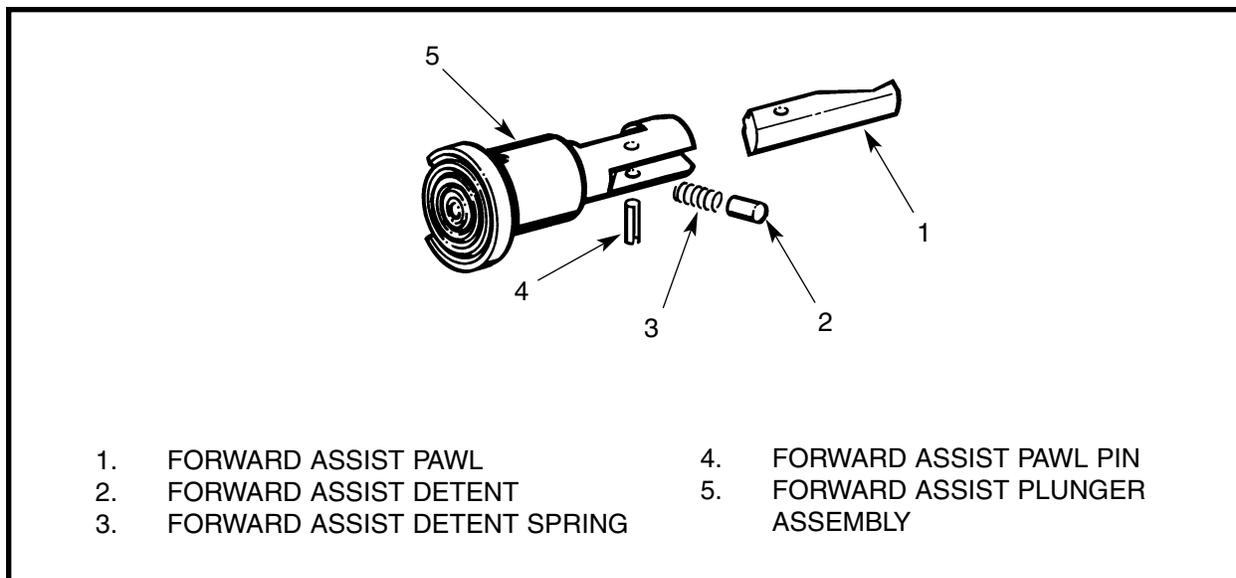

Figure 3-2-25 Disassembling the Forward Assist Assembly
19. **Disassembly.** To disassemble the forward assist assembly see Figure 3-2-25 and proceed as follows: